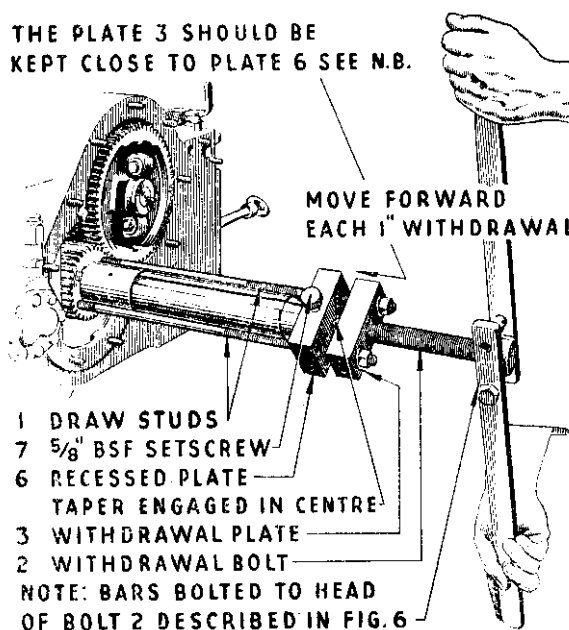

Fig. 5
- i. Assemble withdrawing tool No. 9750 IW. as shown in Fig. 5, viz:—